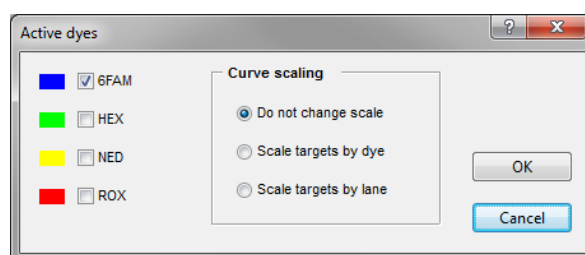

Figure 3.11: The *Active dyes* dialog box.
5.3 With **Display > Set active dyes**, it is possible to select a subset of dyes to display in the window (see Figure 3.11).